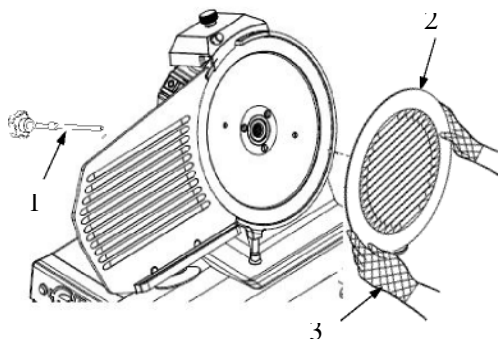

FIG. no. 11 - Release of blade guard
Unscrew the knob of the tie screw (1) (see FIG. no. 11) to release the blade guard (2).
- 1) Disassemble the blade cover (see FIG. no. 11);